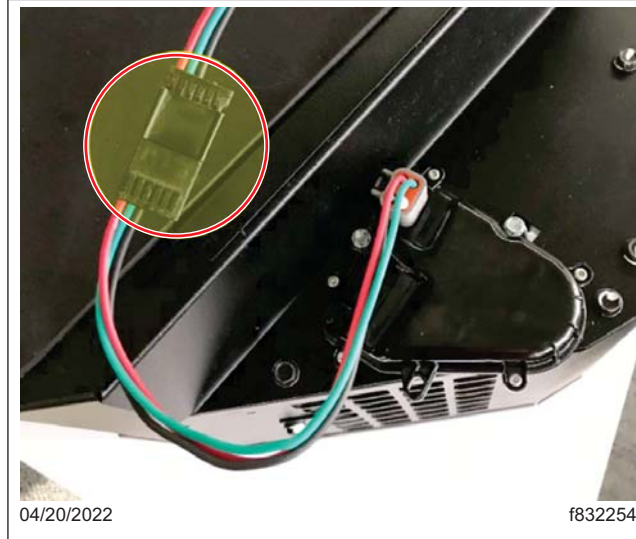

Fig. 5, Jumper Harness Connected to the New Sealed Connector
9. Connect the jumper harness to the new sealed connector on the existing HVAC harness as shown in Fig. 5. Ensure the connectors are fully engaged.